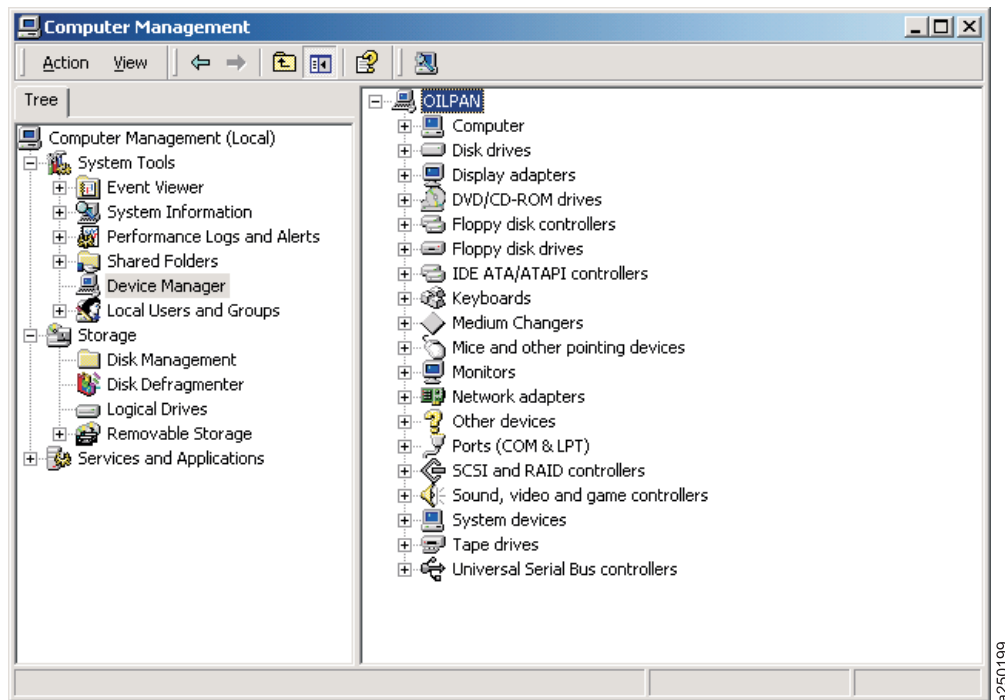

Figure 26. Computer Management Console
7. After a few seconds, a Computer Management console opens. See Figure 26.